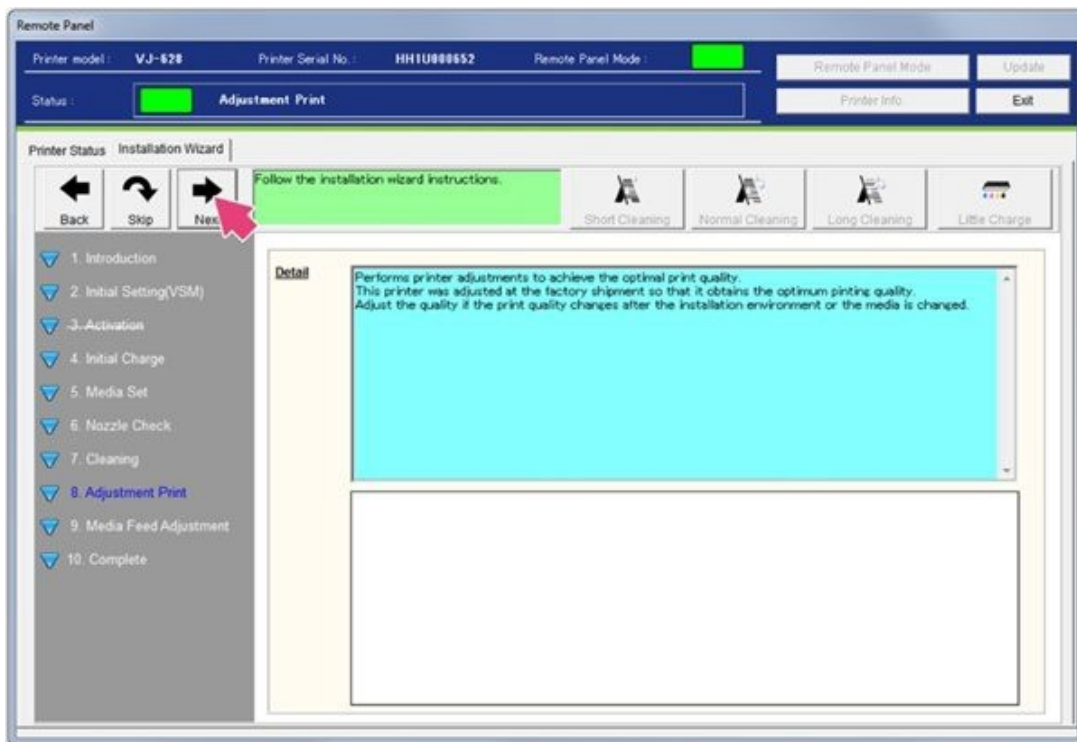

Figure 77
64. The wizard will now guide you through Adjustment Print. Select **Next**. See Figure 77.